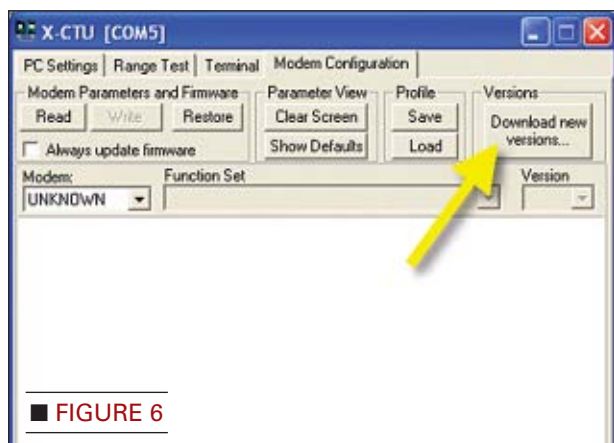

FIGURE 6
• **STEP 3:** Select the modem configuration tab and hit the Download New Versions button as shown in Figure 6. This will download the latest mesh network firmware files from the Maxstream website. In order to do this, you will need to be connected to the Internet during this step.